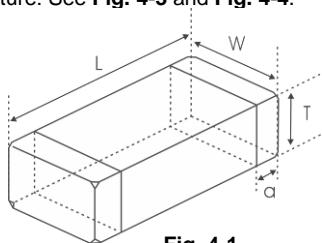
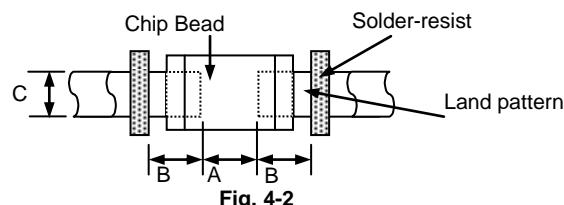

Fig. 4-1
Fig. 4-2
- 1) Dimensions and recommended PCB pattern for reflow soldering: See **Fig. 4-1**, **Fig. 4-2** and **Table 4-1**.